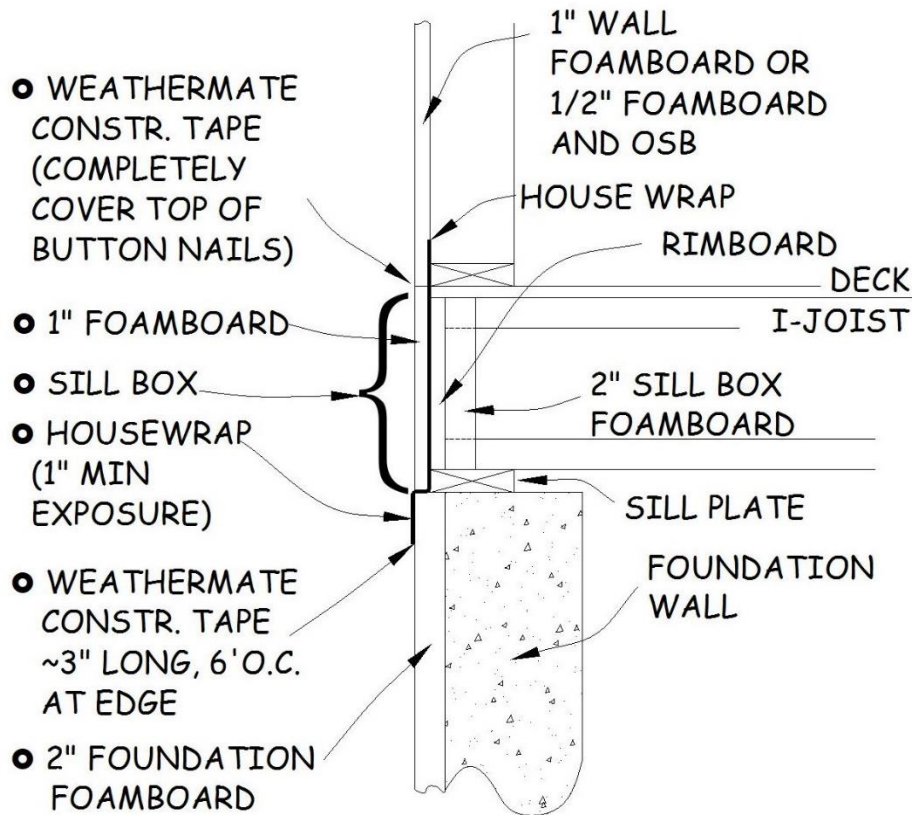

Figure 5-1. House Wrap and Foamboard Seams.
NOTE: Once the wall is erected, the wrap will hang the proper amount below the wall to shed water away from the house at any horizontal seam. The bottom of the wrap will fall slightly below the bottom of the foam sheathing and slightly over the 2" foundation foam (see Figure 5.1).
1. Measure and cut 1” foamboard to fit on the exterior of the sill box, tightly between the bottom of the wall foamboard and the foundation foamboard. Do the same below any OSB/½” foamboard wall panels. Install the foamboard with 2” button nails about 8” apart and 2” away from the top and bottom seams of the foamboard. Make sure the house wrap is **behind** this foamboard, leaving any extra wrap protruding from the seam between the bottom of the sill box foamboard and the top of the foundation foamboard (see Figure 5-1).
CAUTION: House wrap must extend at least 1” over the surface of the 2” foundation foamboard (see Figure 5-1). If it does not, see the Construction Supervisor.
- b. Continue taping other seams with Weathermate™ Construction tape **except for** the seam between the rim board foamboard and the foundation foamboard. **Do not tape the seam where the house wrap emerges from below the sill box foamboard.** Instead, tape the bottom of the house wrap to the foundation foamboard every 6’ with a 3” piece of Weathermate™ Construction tape just to hold it down (see Figure 5-1).